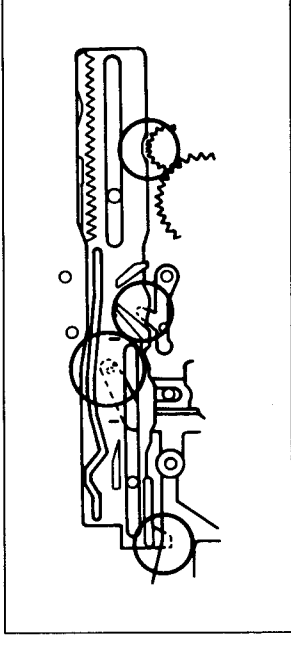
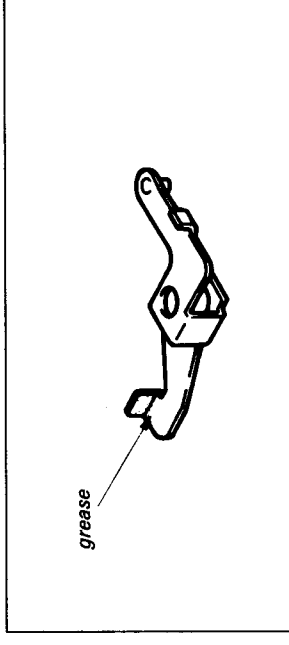

Fig. 7-42.
Fig. 7-43.
- 2) Push mode arm ① in the direction of arrow, and mount the M slider ②, noticing the positioning of the other parts in Fig. 7-42, and mount the stopper washer ③.
- 3) Mount hard brake (S) ④ and spring ⑤.
- 4) Apply grease. (See Fig. 7-43.)
- 5) Apply a half drop of oil from the spindle ⑥ groove to the bottom, mount the pinch press lever assembly ⑦ and the E ring ⑧.
- 6) Mount RL arm ⑨, mount the ring lock spring ⑩ and the stopper washer ⑪.
- 7) Mount B release slider ⑫ and stopper washer ⑬.
- 8) Mount REW brake assembly ⑭.
- 9) Mount the two tension springs ⑮.